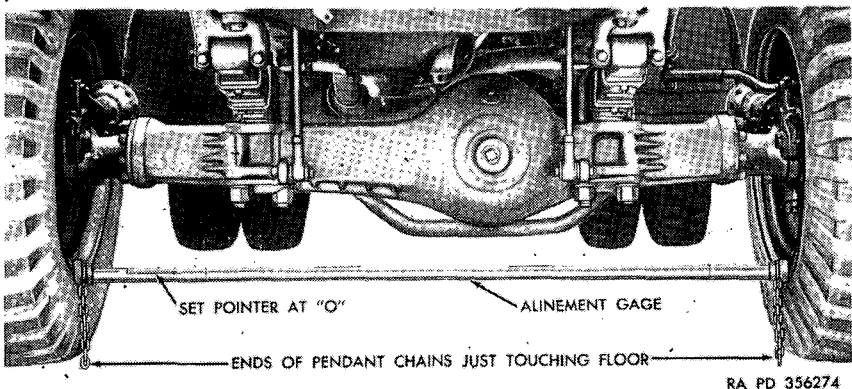

Figure 57.1 Toe-in test.
a. (Superseded) TOE-IN-TEST (fig. 57.1). With the front wheels in a straight-forward position, move the vehicle at least 3 feet forward to get the tires in free rolling condition. Place the alinement gage between the tires forward of the axle with both pendant chains barely touching the floor. Set the gage so that the pointer registers zero. Move the vehicle forward until the gage is back of the axle with the pendant chains barely touching the floor and read the gage. The amount the scale has moved in relation to the pointer will indicate the amount of wheel toe-in or toe-out. Since toe-out is never desirable, the gage is calibrated in inches for toe-in only.